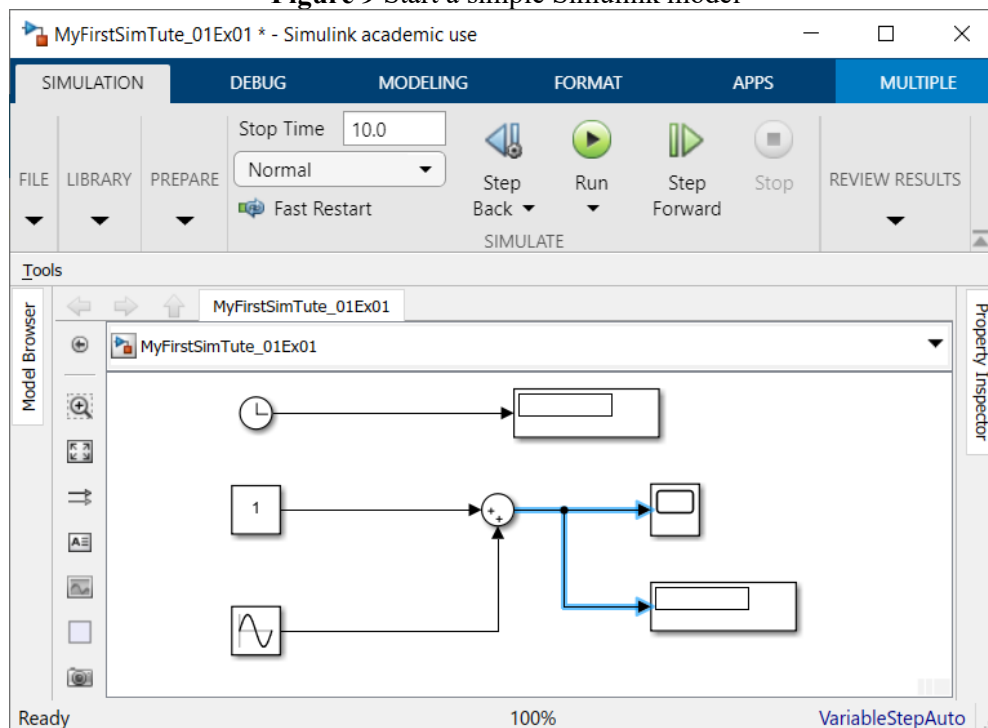

Figure 10 The Simulink model 'MyFirstSimTute01Ex01.mdl'
- Connect/wire blocks as shown in **Fig. 10**.